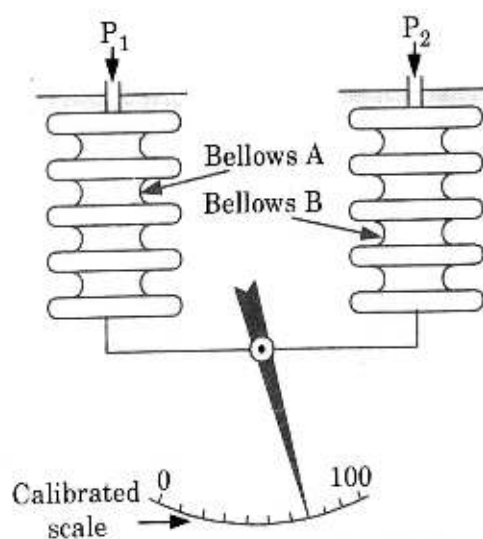

Fig. 5.19.2. Bellows element.
1. A metallic bellows is a series of circular parts, resembling the folds in an accordion as shown in Fig. 5.19.2.
5. There are three main configurations in which bellows elements are used and these are for measurement of absolute, gauge and differential pressures. These configurations may be illustrated with the help of Fig. 5.19.2.